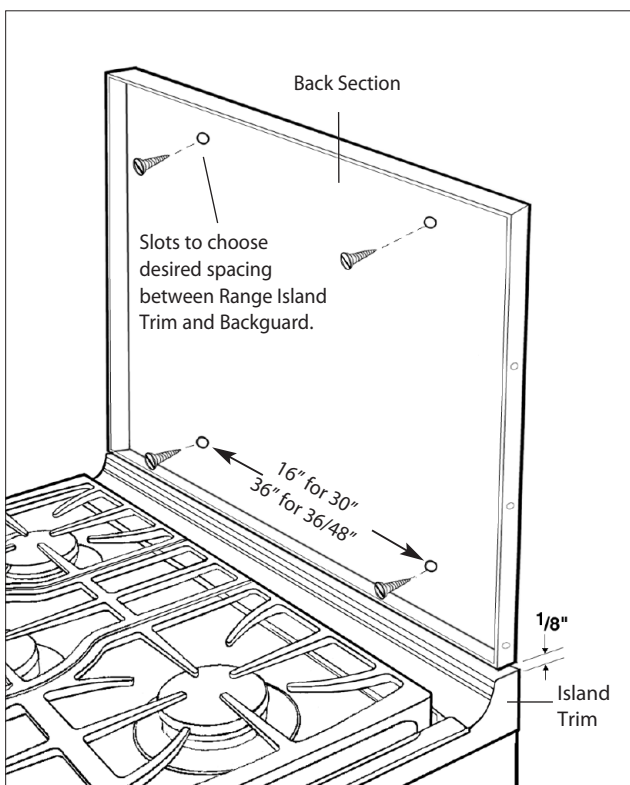

Fig.03
2. After unpacking all backguard system parts, locate the Back Section 1/8" (see fig. 03) above and centered over the Island Trim attached to the range.* Secure Back Section to wall with the appropriate fasteners (not supplied) to anchors or wood stud (fig. 03).